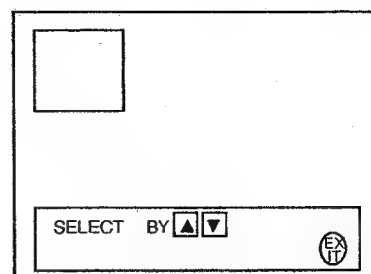

Fig. 6
- 4) Select the PIP, The screen shown in Fig.6 will be displayed in the LEFT / RIGHT KEY is pressed.